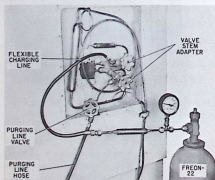

FIGURE 11
11. Attach a cylinder of Freon-22, a silica gel drier, and a pressure gauge to the valve-stem adapter that leads to the evaporator inlet. See figure 11.